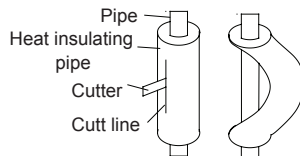

Fig.15
- (2). Do not bend the pipes in an angle more than 90°.
- (3). When pipes are repeatedly bent or stretched, the material will harden, making it difficult to bend or stretch them any more. Do not bend or stretch the pipes more than three times.
- (4). When bending the pipe, do not bend it as is. The pipe will be collapsed. In this case, cut the heat insulating pipe with a sharp cutter as shown in Fig.15, and bend it after exposing the pipe. After bending the pipe as you want, be sure to put the heat insulating pipe back on the pipe, and secure it with tape.
Hold the torque wrench at its grip, keeping it in the right angle with the pipe as shown in Fig. 15, in order to tighten the flare nut correctly.